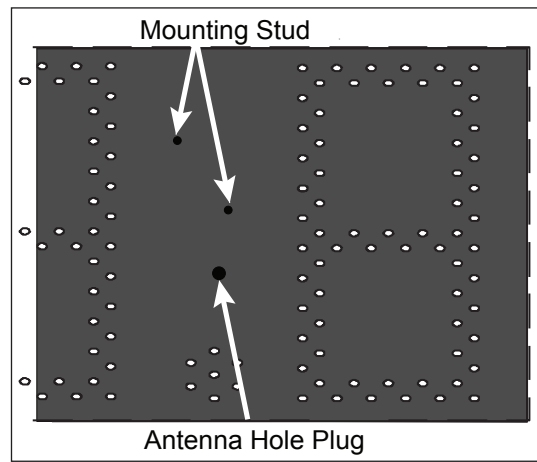

Figure 1: Digit Door Receiver Mounting Overview
2. Remove both antenna hole plugs from the digit face. Refer to **Figure 1**.